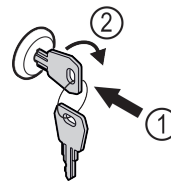

Fig. 91
- ▶ Insert key Fig. 91 (1).
- ▶ Turn key clockwise by 90° Fig. 91 (2).